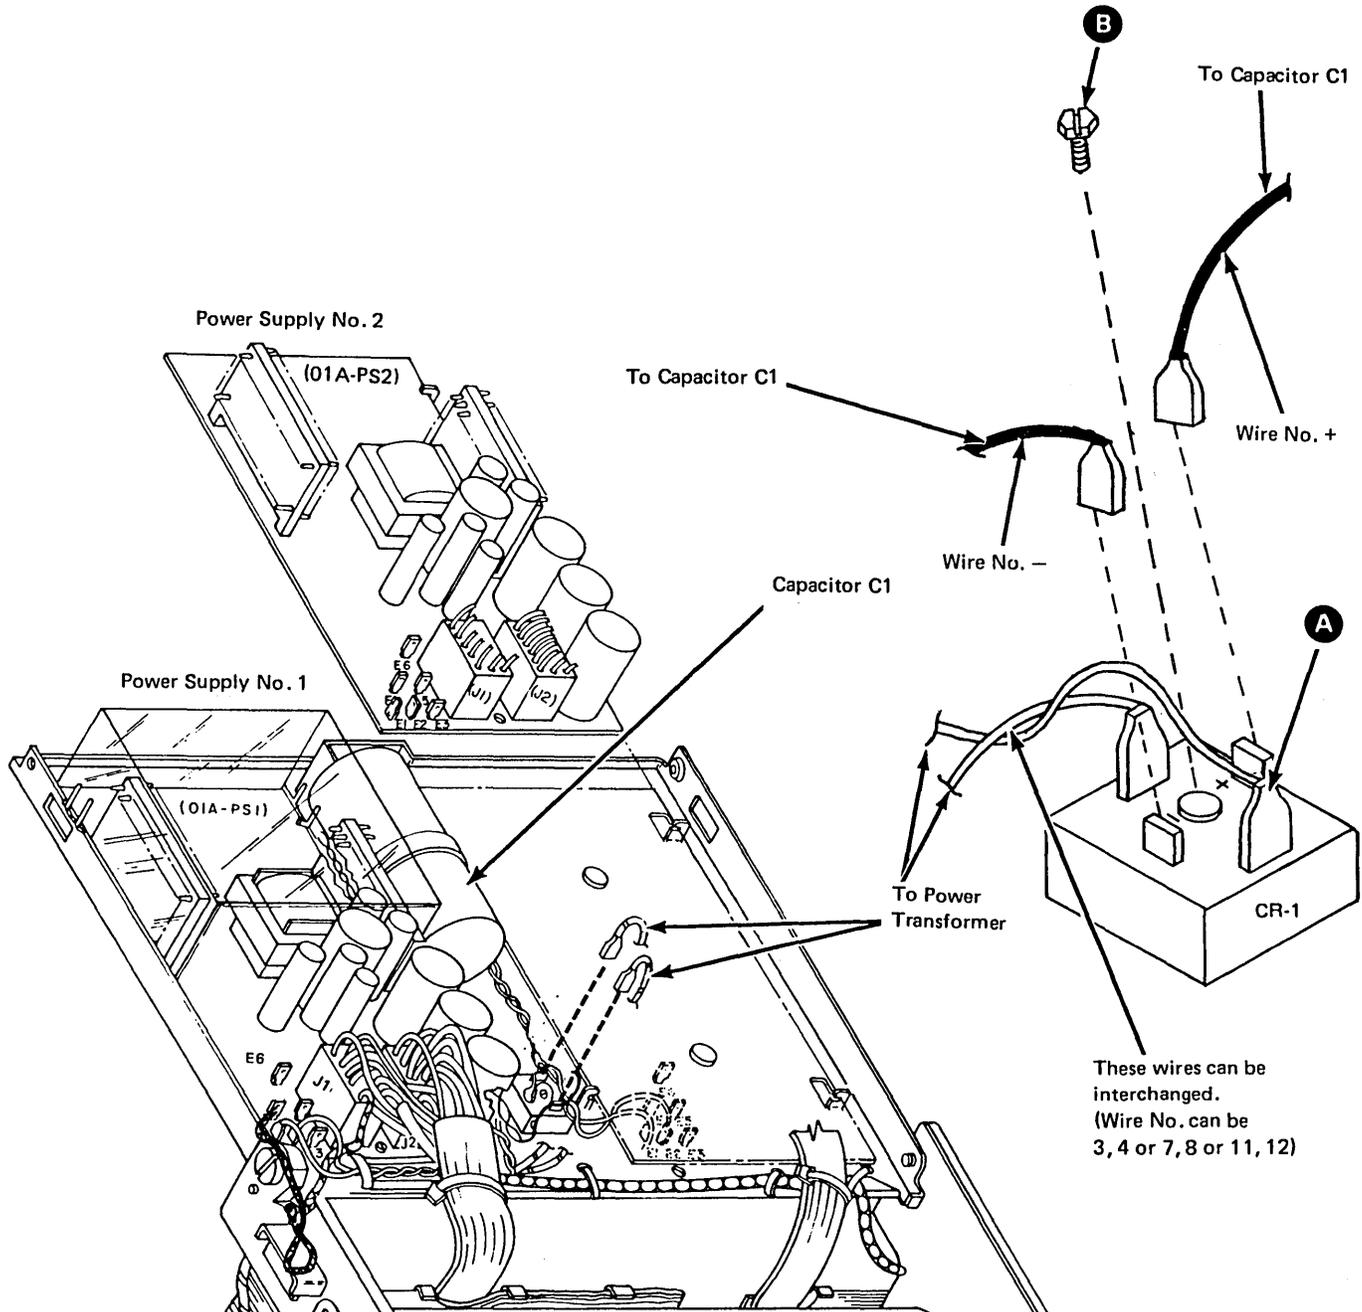

Figure 4-7. Prime Power Diode Assembly (CR1)
5. Disconnect the wires leading to the diode assembly **B** (wires 3, 4, or 7, 8 or 11, 12). See Figure 4-7 (the diode assembly is identified as CR1).
4.8 Diode Assembly, Removal and Replacement (Figure 4-7)
6. To reinstall, reverse these steps and use Figure 4-7 to identify diode slip-on pins.